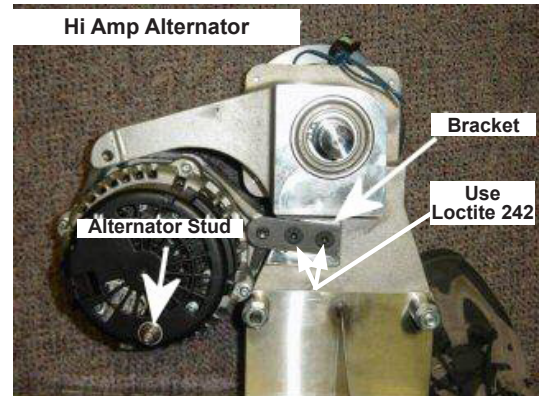

Figure 25. Assembled Clutch Assembly before Installation
9. Ensure the 2 brackets are attached to the bottom 4 holes regardless of the alternator size. The alternator will need to be rotated so that the stud is on the bottom (Figure 25).